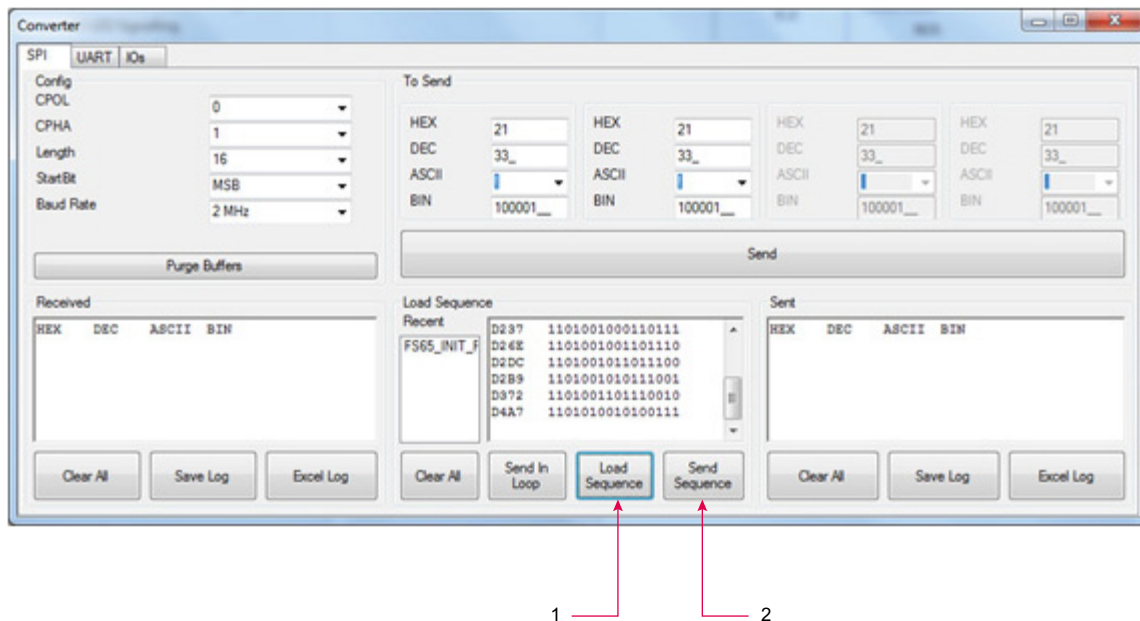

Figure 20. Loading the register configuration example file
5. Launch FlexGUI. When FlexGUI opens, click the **load sequence** button to load the register configuration file (see Figure 20).
- Send the register configuration file to the FS45xx/FS65xx by clicking the **send sequence** button (see Figure 20).
2. To use the register configuration file, open FlexGUI, then load the register configuration file and send it to the evaluation board (see Figure 20).